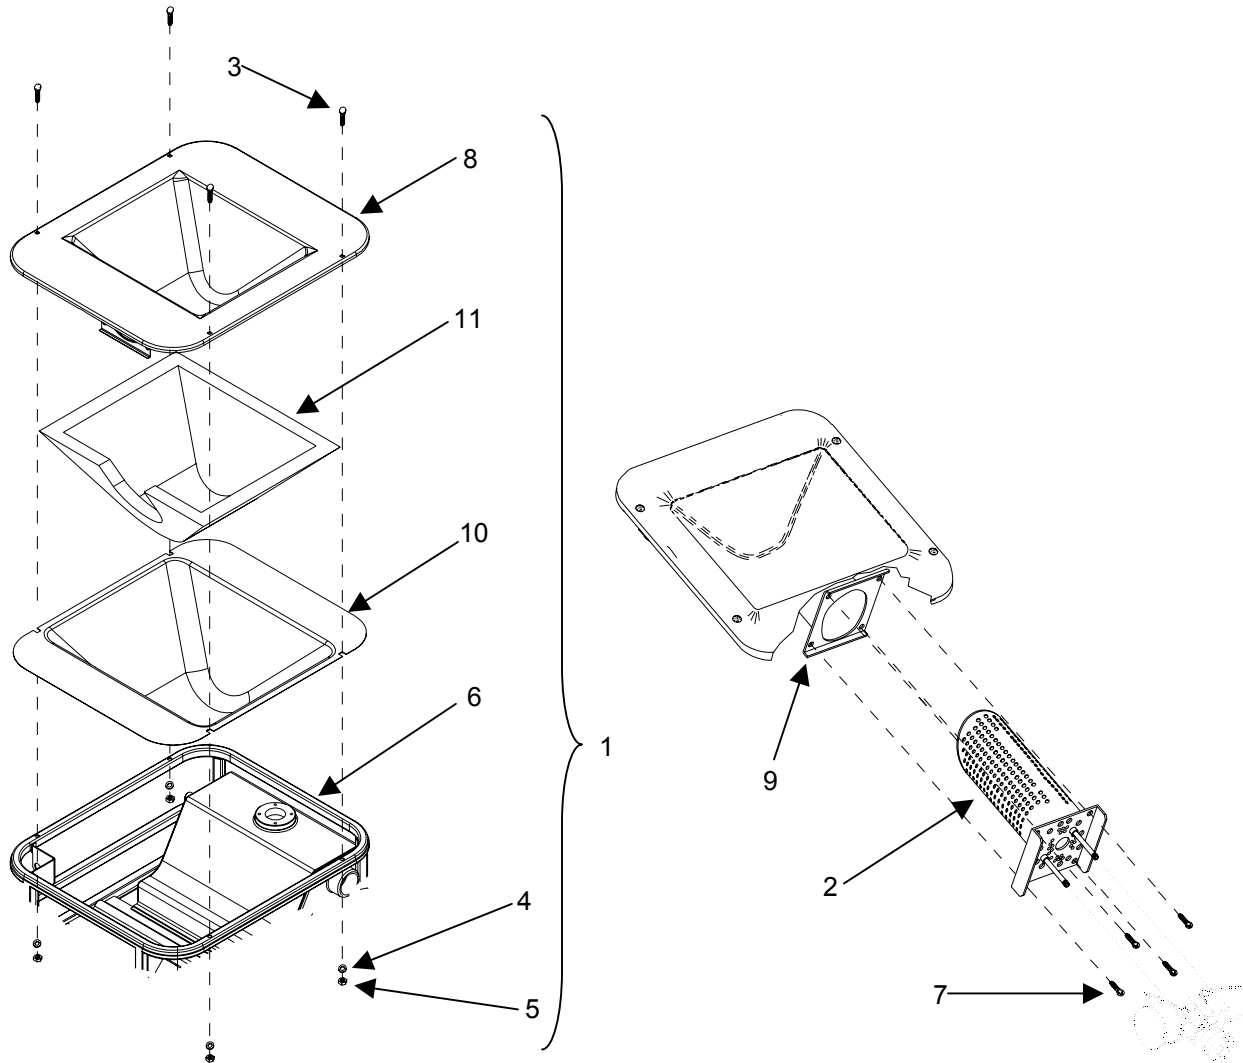

Figure 2. Replace the Reflective Heat Shield and Burner Assembly
2. To replace any part of the reflective heat shield assembly (**figure 2, item 1**) or burner tube assembly (**figure 2, item 2**), remove four carriage bolts (**figure 2, item 3**), washers (**figure 2, item 4**) and self-locking nylon nuts (**figure 2, item 5**) holding the reflective heat shield assembly to the frame (**figure 2, item 6**).
3. Lift the entire reflective heat shield and burner tube assembly (**figure 2, item 1, figure 2, item 2**) off MBU frame (**figure 2, item 6**).
4. Remove the burner tube assembly by removing four screws (**figure 2, item 7**).
5. Place new burner tube (**figure 2, item 2**) or reflective heat shield assembly (**figure 2, item 8**) into position, making sure that the flange (**figure 2, item 9**) of the heat shield (**figure 2, item 8**) fits through the opening on the burner well (**figure 2, item 10**) and that the insulation (**figure 2, item 11**) is not pinched between the heat shield and burner well.
6. Flip the entire assembly face down on a work surface and press down on the burner well to expose the burner tube mounting plate (**figure 2, item 9**).
7. Install the burner tube assembly (**figure 2, item 2**) making sure that the holes in the burner tube face out of the reflective heat shield when the assembly is mounted back on the MBU frame (**figure 2, item 6**).
8. Place the entire reflective heat shield and burner tube assembly back in place on the MBU frame (figure 2, item 6).
9. Install four carriage bolts (figure 2, item 3), washers (figure 2, item 4), and self locking nylon nuts (figure 2, item 5) securing the reflective heat shield assembly (figure 2, item 1) to the frame (figure 2, item 6).